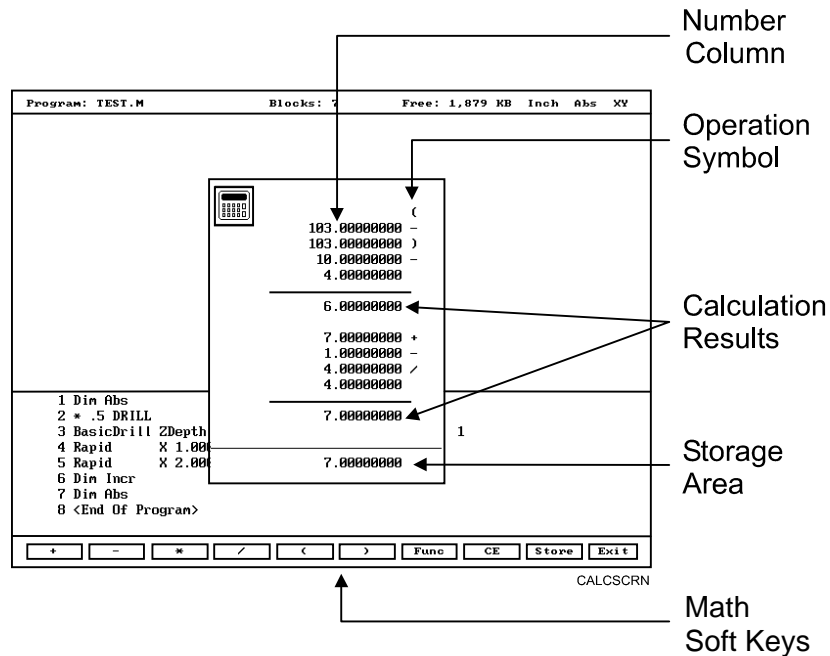

Figure 12-2, Math Calculator and Soft Keys
- Highlight the **Math Calculator** template, and press **ENTER** to display the math calculator pop-up window. Refer to **Figure 12-2**.